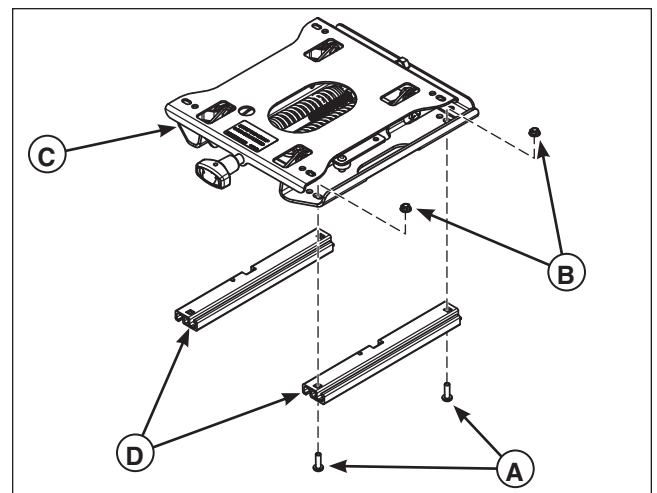

Figure 2. Correcting the Seat Suspension Module Orientation
- If the seat is installed, remove the four (4) nylock flange nuts that secure it to the seat suspension module and remove the seat.
- Remove the four (4) 5/16 X 1" button socket cap screws (**A**, **Figure 2**) and 5/16 flanged lock nuts (**B**) that secure the seat suspension module (**C**) to the slide rails (**D**).
- Reinstall the seat and secure using the four (4) nylock flange nuts that is was previously installed with.